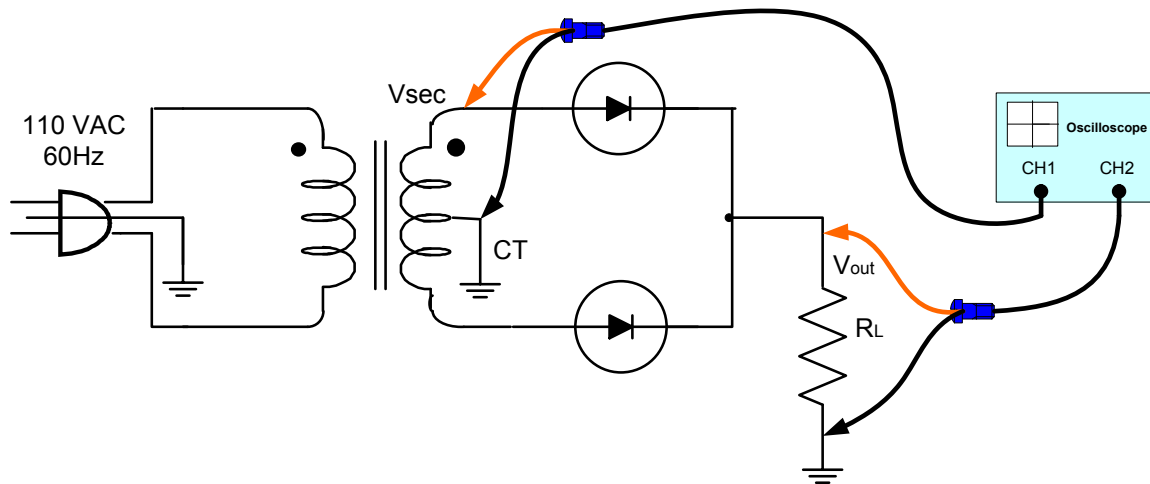

Figure 3
2. Connect the full wave rectifier circuit shown in Figure 3. Use $R_L=2.2K$. (Precaution: the ac line voltage must not be exposed; the transformer should be fused properly). Notice the polarity of diode. The line indicates the cathode side (the negative side). Connect the oscilloscope so that channel 1 is across the transformer secondary and channel 2 is across the output (load) resistor. The oscilloscope should be for “LINE Triggering” as the waveform to be viewed in this experiment is synchronized with the ac line voltage.